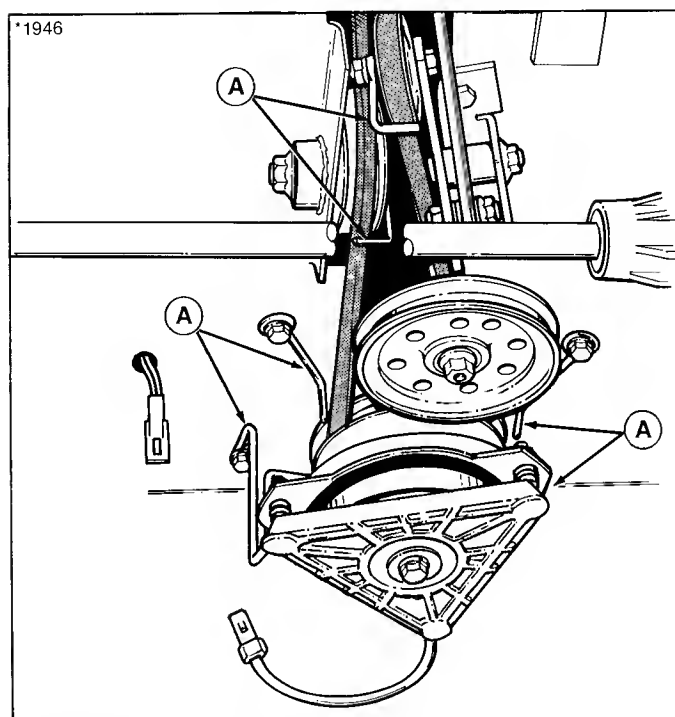
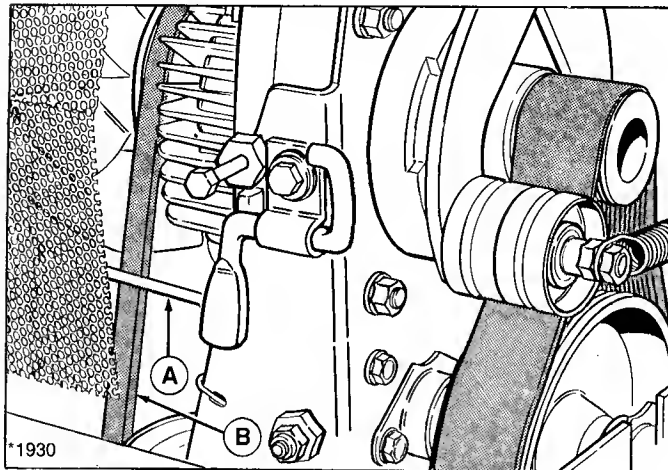

Figure 36. Belt Stop Locations
Figure 37. Belt Stop Location
12. Release parking brake to check belt stop adjustment. There should be 1/16 to 1/8 inch clearance between belt and belt stops. Five belt stops are shown in figure 36. Also check belt stop (A, figure 37) at transmission pulley. To adjust, loosen mounting hardware, position belt stop, and then tighten hardware.